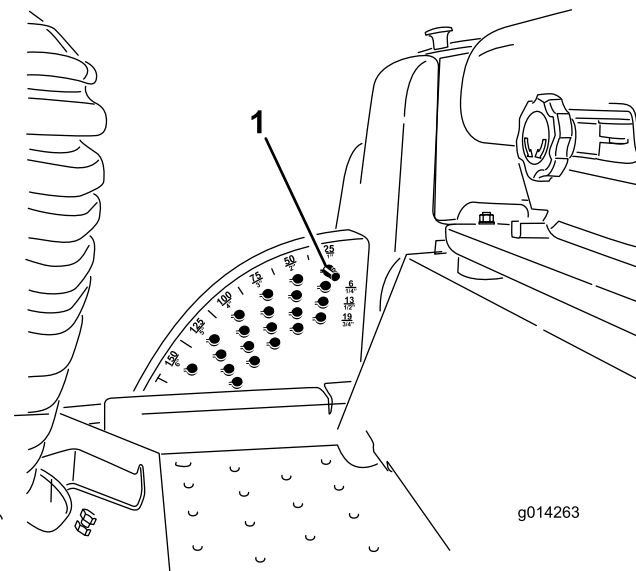

Figure 18
Height-of-Cut), and place the pin in the 15 cm (6 inch) height-of-cut position (Figure 18).
1. With the engine running, push back on the deck lift switch until the mower deck is fully raised and **release the switch immediately** (Figure 18).
2. To adjust, rotate the stop pin until the nub on it lines up with the slots in the holes in the height-of-cut bracket and remove it (Figure 18).
3. Select a hole in the height-of-cut bracket corresponding to the height-of-cut desired, insert the pin, and rotate it down to lock it in place (Figure 18).
Note: There are four rows of hole positions (Figure 18). The top row gives you the height of cut listed above the pin. The second row down gives you the height listed plus 6 mm (1/4 inch). The third row down gives you the height listed plus 12 mm (1/2 inch). The bottom row gives you the height listed plus 18 mm (3/4 inch). For the 15.8 cm (6 inch) position there is only one hole, located in the second row. This does not add 6 mm (1/4 inch) to the 15.8 cm (6 inch) position.